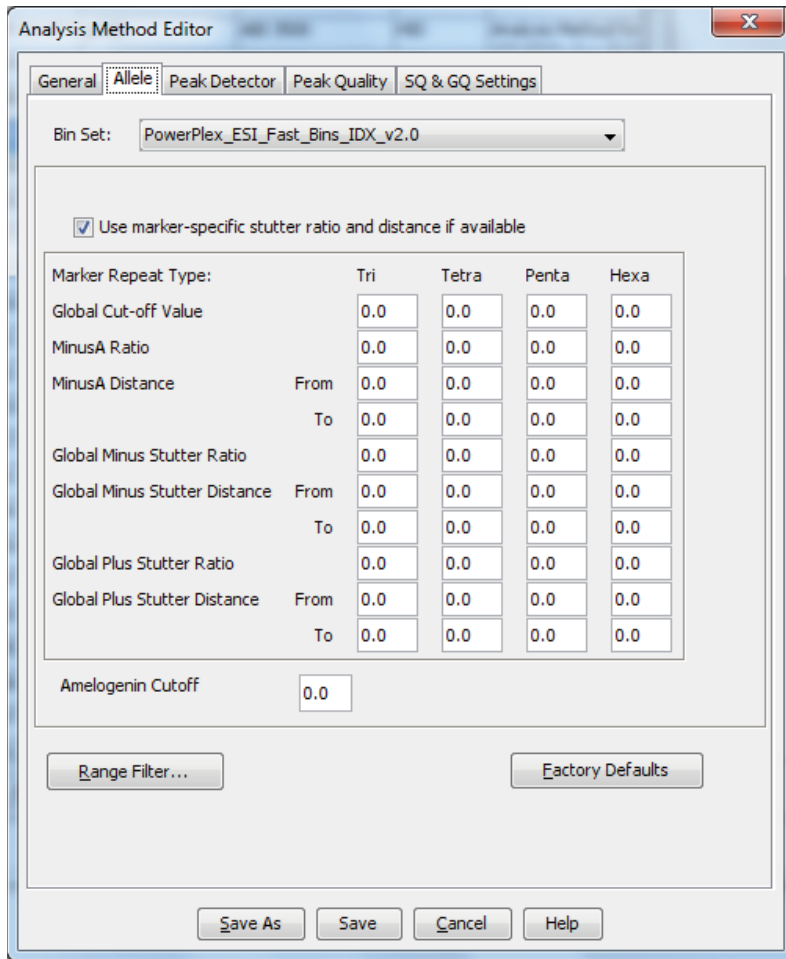

Figure 12. The GeneMapper® ID-X 'Allele' tab.
6. Select the 'Allele' tab (Figure 12).